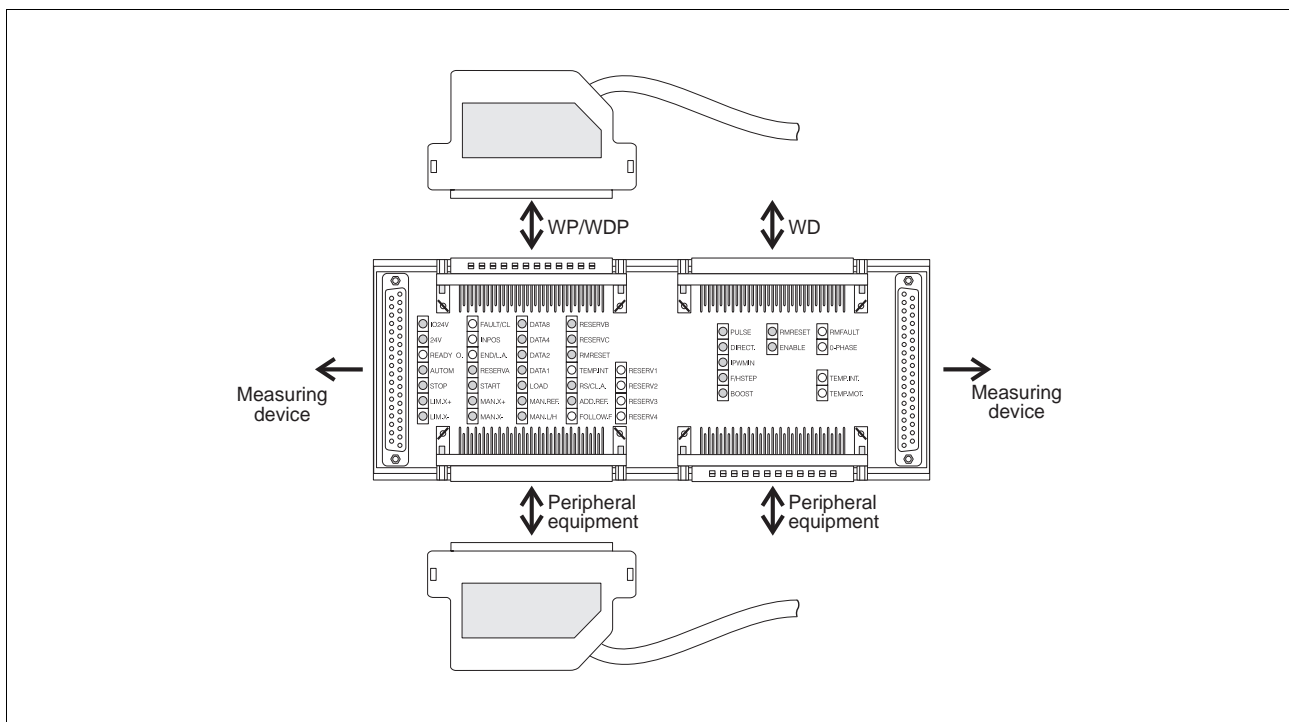

Fig. 6-18 Starting the D 690 interface tester
2. Connect the D 690 interface tester between the WP/WDP or WD unit and the peripheral equipment with the cable, see fig. 6-18.